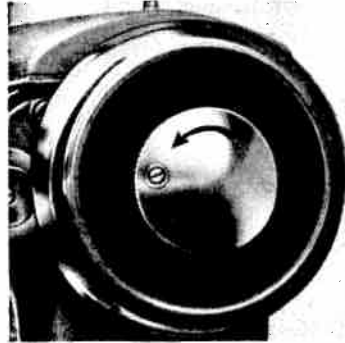

Fig. 22
1. To wind the bobbin, the balance wheel must be disconnected from the stitching mechanism. Hold the balance wheel with your left hand and turn the stop motion knob (Fig. 22) toward you with your right hand. This will permit the balance wheel to turn freely while the needle bar remains motionless. The balance wheel is now disconnected for the bobbin winding operation.